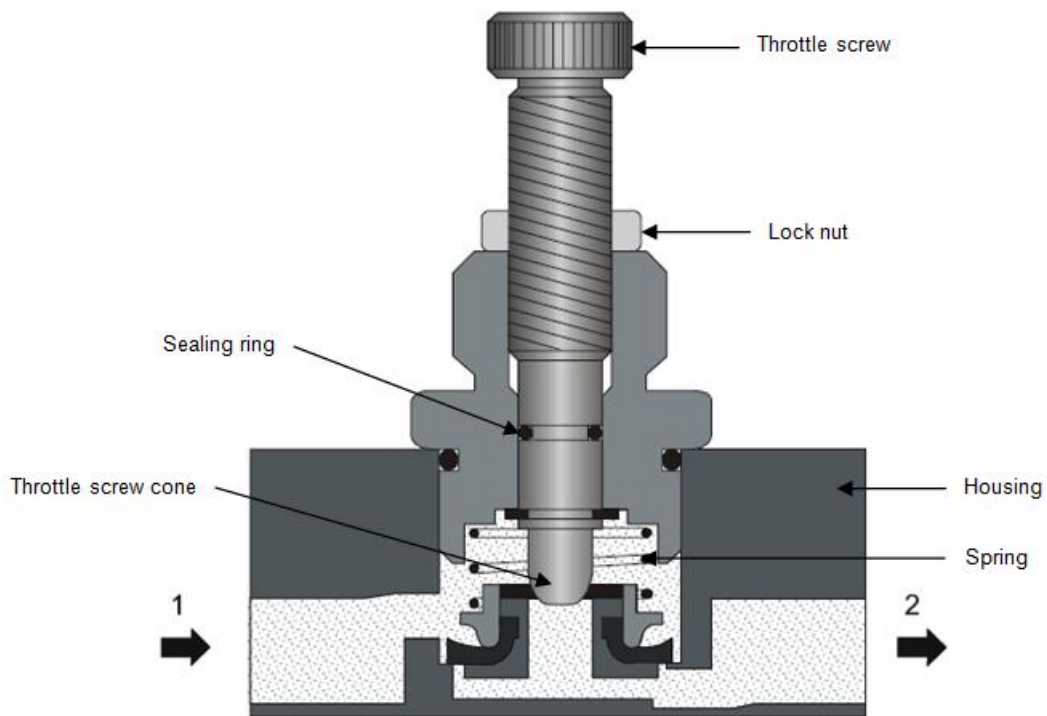

FIG 3.
A. The one-way flow control valve consist of the following components: (Fig 3)